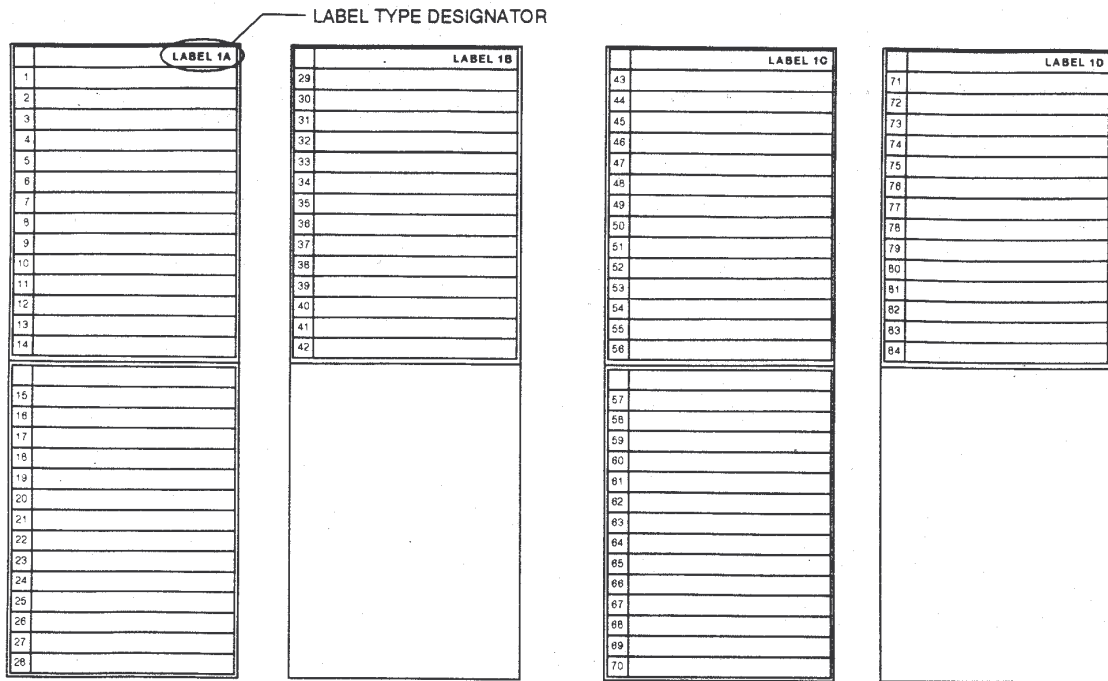

Figure 1. Label Set for 1–84 Circuit Numbering
- For circuit numbering 1–84, use label sides marked LABEL 1A, LABEL 1B, LABEL 1C, and LABEL 1D (see Figure 1 on page 2).